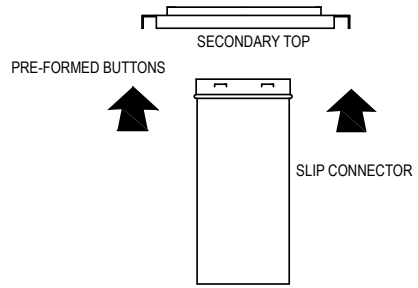
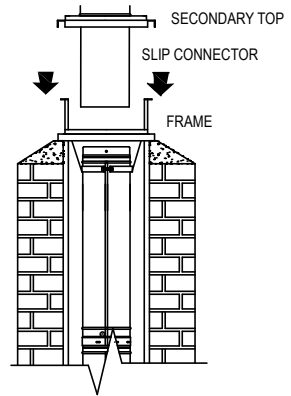
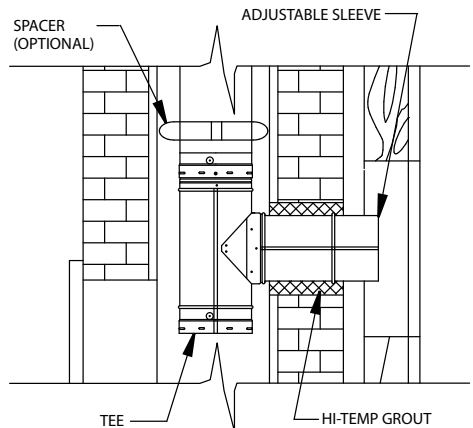

Figure 17
Figure 18
Figure 43
STEP SEVEN: Now you are ready to do the final top assembly. Take the slip connector and attach to Secondary Top. This is held in place by pre-formed buttons. (NOTE: with oval pipe the Slip Connector pipe must be attached to the Secondary Top with pop rivets in four pre-punched holes.) (See **Figure 17**) When this is done, slide Slip Connector into DuraLiner and over chimney top Frame. Attach Secondary Top to frame using eight screws. (See **Figure 18**) **Note: See page 17 for supplement (L403) that provides instructions for installing a through-the-wall system which penetrates a combustible wall, goes into an existing masonry chimney, and connects to a Dura-Liner Relining System.**
Step 8: Connect the Tee to the first section of Pipe, as shown in **Figure 18**. Follow Steps 3, 4, and 5 (**Figures 19 and 20**) on page 10 & 11. Once the Adjustable Sleeve Component of the Insulated Thimble Assembly is pushed into the Tee, caulk with a high-temperature masonry / fireplace grout, as shown in Step 9. Slide the Insulated Wall Thimble into the Adjustable Sleeve and through the wall, until the base of the Thimble is flush against the masonry, as shown in **Figure 43**.